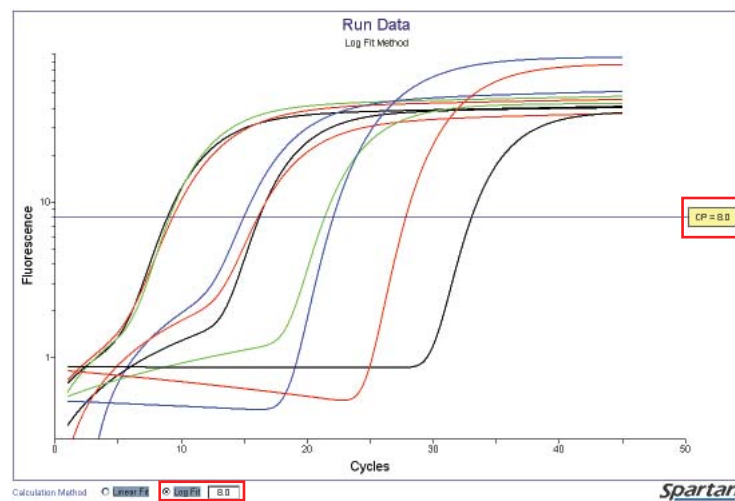

Figure 10. Manually entering CP Thresholds
If you have chosen “**Log Fit**” as the calculation method for analysis of Real-Time PCR data (see section 5.5 – Choosing the Calculation Method for Data Analysis), a horizontal line and label box (CP) will be displayed on the graph (Figure 10). This will allow you to manually set a crossing point (CP) threshold.